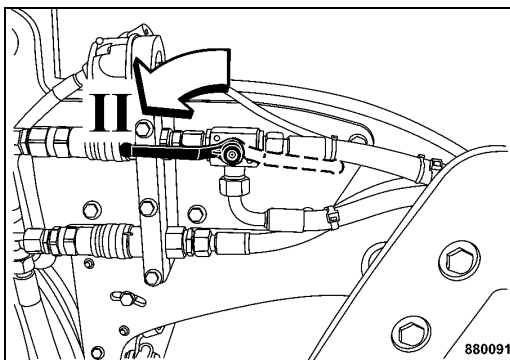

Fig. 99
- Turn the ball valve for the chip spreader to position "II" (Fig. 99).